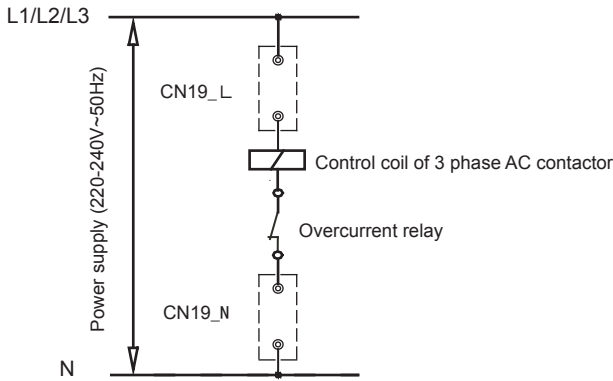
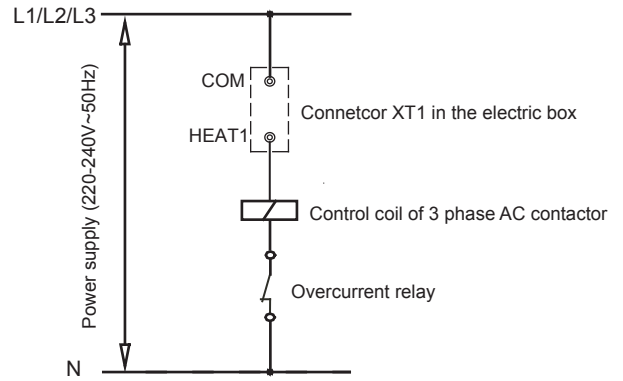

Fig. 8-22-1
Fig. 8-22-2
- Step 9. HTW-MCSU30RN1L and HTW-MCSU60RN1L connection of control wires of auxiliary electric heaters: the control wires of AC contactor of the auxiliary electric heater must pass the connection terminals CN19_L and CN19_N of the main unit, as shown in Fig. 8-22-1. Step 10. HTW-MCSU90RN1L connection of control wires of pipeline auxiliary electric heaters: the control wires of AC contactor of the pipeline auxiliary electric heater must pass the connection terminals HEAT1 and COM of the connector XT1 in the electric box of the unit, as shown in Fig. 8-22-2.